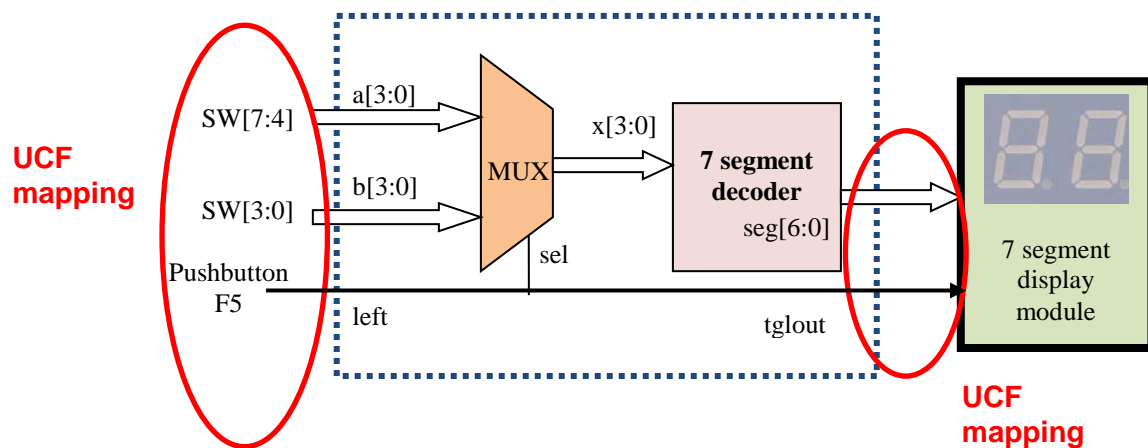

Figure 6: Block diagram of circuit to display different input values
- 5.5.3 Figure 6 shows the block diagram of the modified circuit (bounded within the blue dashes). The circuit now accepts two 4-bit inputs: a[3:0] for left display value and b[3:0] for right display value. The multiplexer will direct input a[3:0] to x[3:0] when left=1, and input b[3:0] to x[3:0] when left=0. There is no change to the 7-segment decoder circuit itself which was designed in 5.2.
Note on Figure 6 that the mappings of switches to circuit inputs and 7-segment display to circuit outputs are achieved by the UCF file.